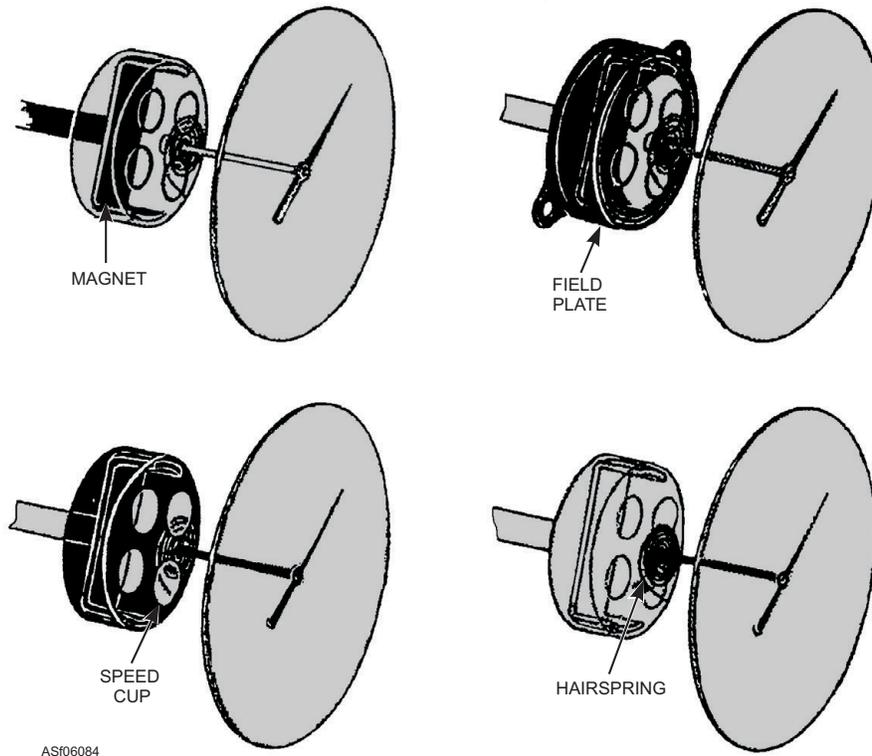

Figure 6-84.—Sectional view of indicating portion of the speedometer.
**SPEED INDICATOR.**—The speed-indicating portion of a speedometer (fig. 6-84) or tachometer of